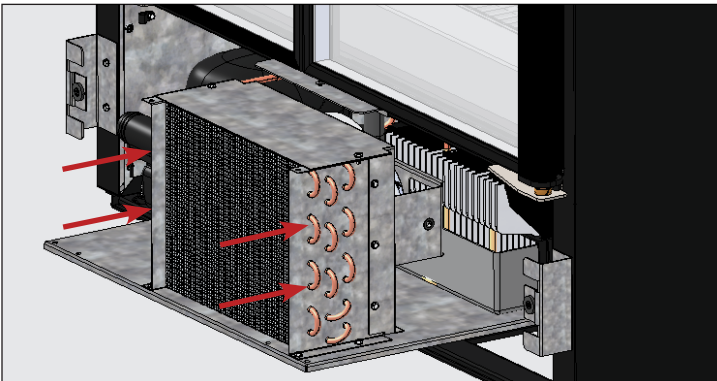

Fig. 7. Carefully slide the condensing unit back into position and reinstall the bolts.
9. Reinstall the coil brackets (if applicable). Then carefully slide the compressor assembly back into position and bolt it in place. See fig. 7.